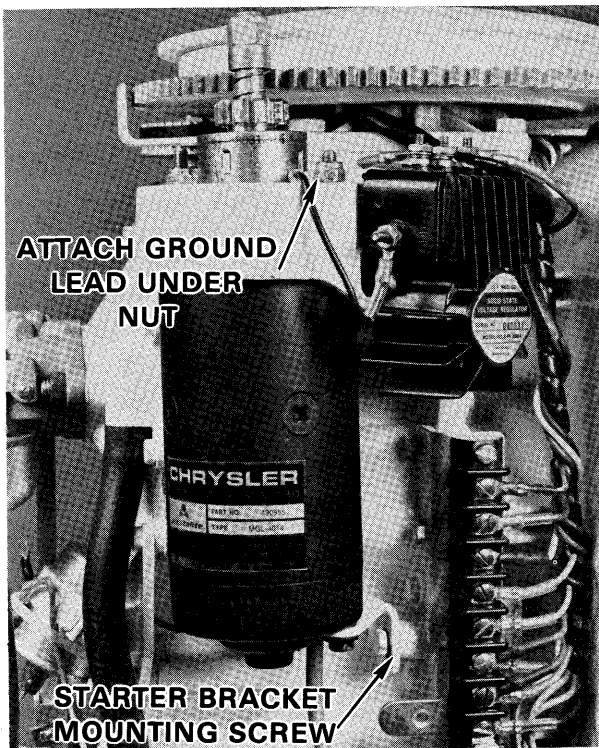

Figure 1B—Position of Starter Bracket
- A. Position starter bracket on starter as shown in figure 1B. Install thru bolt and tighten securely.